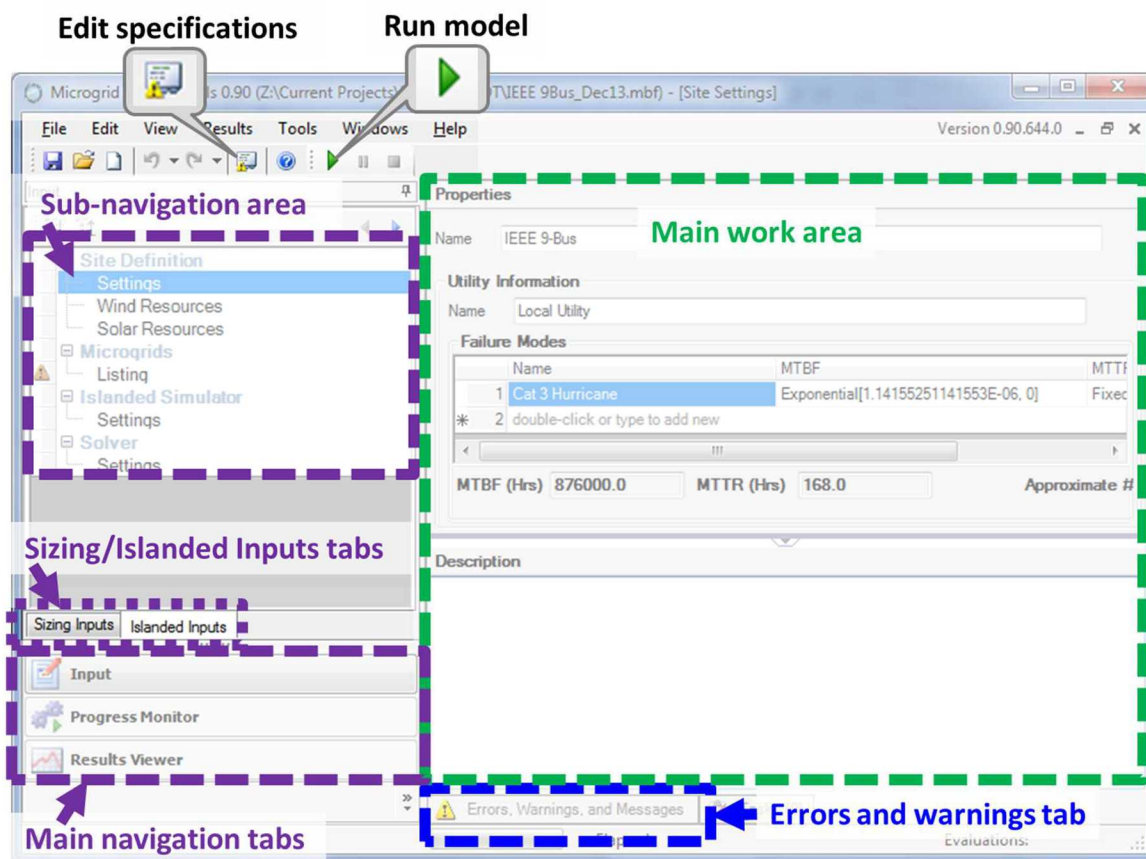

Figure 61. MDT main screen overview.
There are three main areas of MDT. They are accessed via tabs at the bottom left corner of the screen (*Main navigation tabs* in Figure 61).
Pages within each section are accessed via links in the upper left corner of the screen (*Sub-navigation area* in Figure 61). When the Input tab (under *Main navigation tabs* in Figure 61) is selected, the user can choose whether to display Sizing Inputs or Islanded Inputs (using the tabs just above the main navigation tabs) depending on the analysis being performed. Islanded Inputs is the default mode.
- The **page navigation** area is located on the left side of the page (highlighted in purple in Figure 61).
- The **main work area** (highlighted in green in Figure 61) takes up the majority of the screen. This is where elements are added and modified.
Errors  and **warnings**  for all pages are accessible through the “Errors, Warnings, and Messages” tab at the bottom of the screen (highlighted in blue in Figure 61). Errors and warnings are also displayed on the element pages next to the elements with problems.